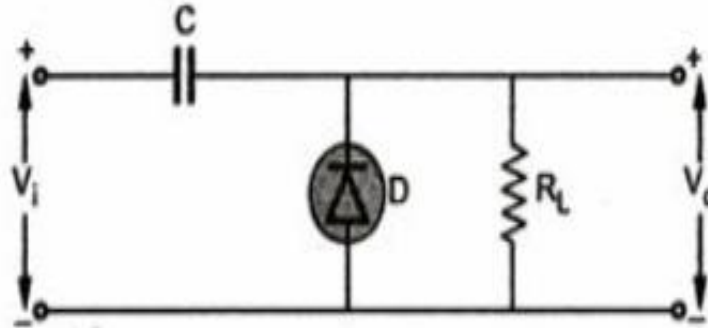

Fig. 2.27 Positive clamper
- The circuit is shown in the Fig. 2.27.